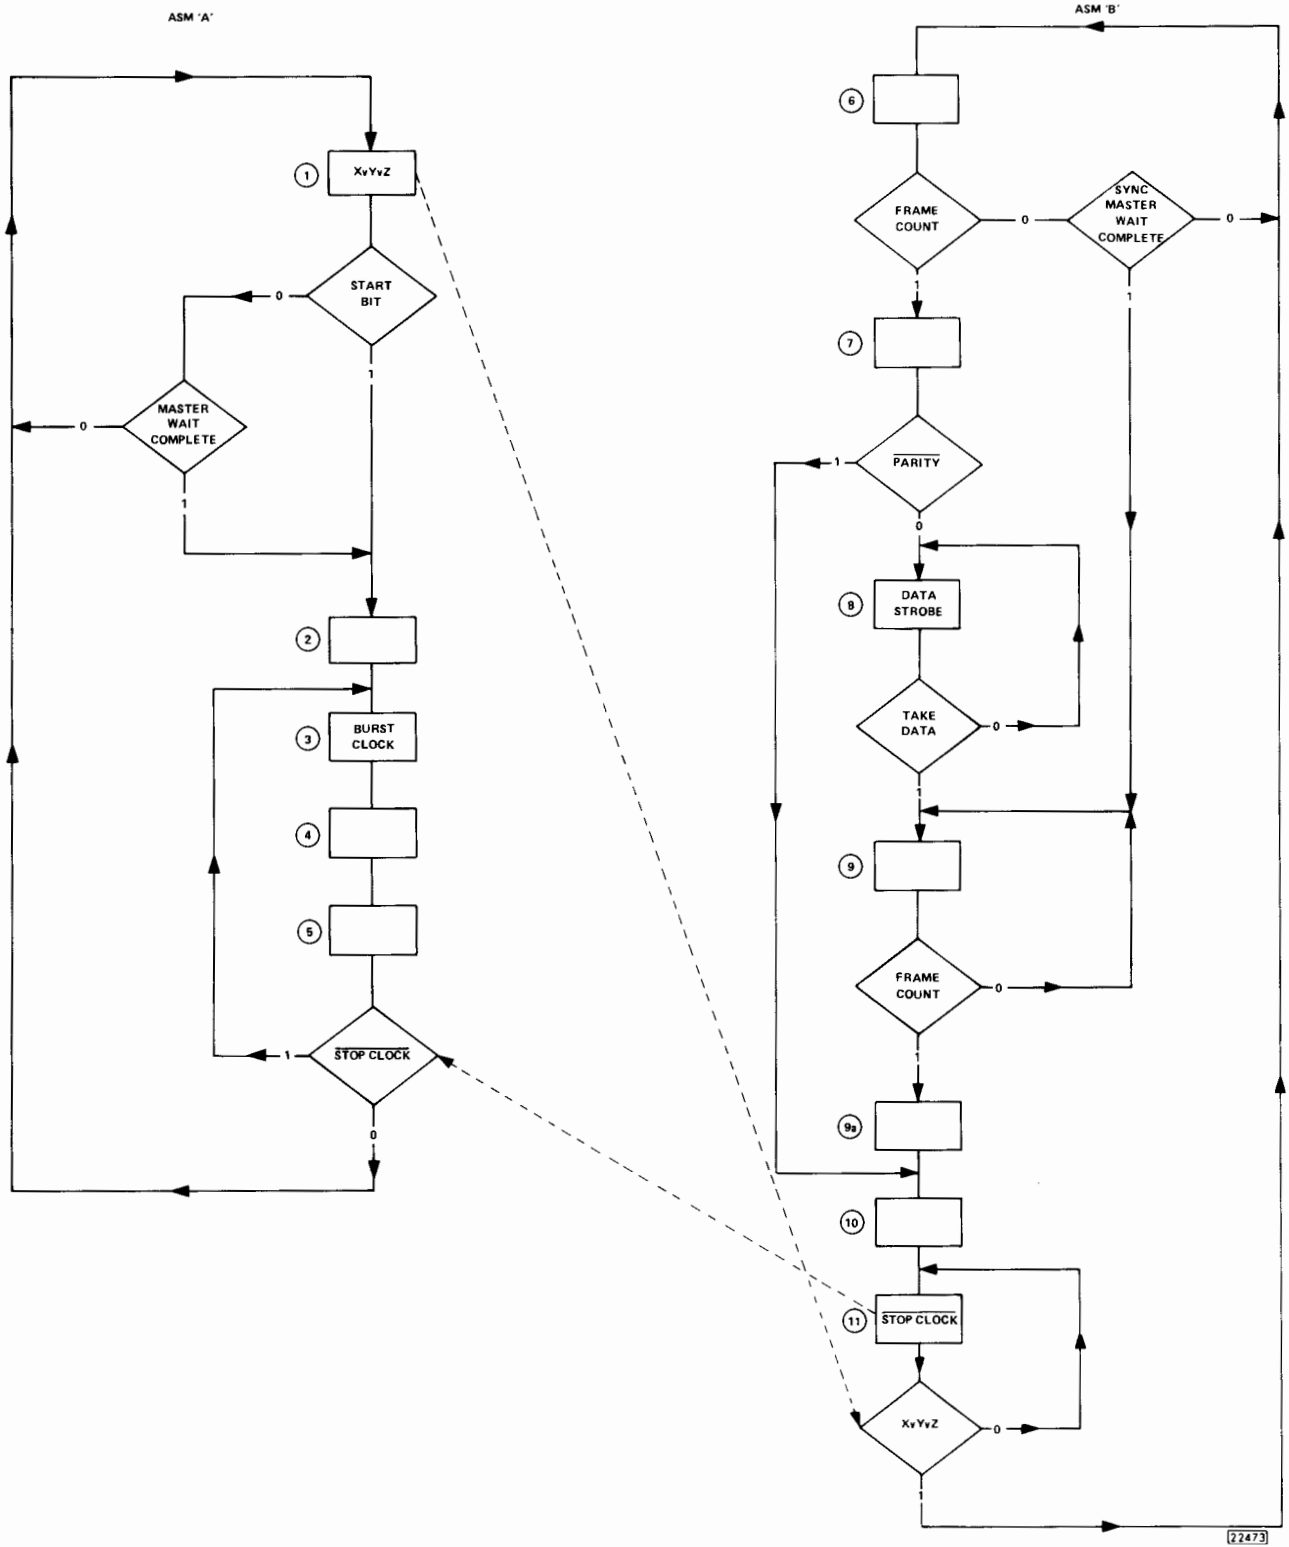

Figure 8-8 State Diagram of ASM 'A' and ASM 'B'
8-67 The Algorithmic State Machine A is a 5 state ASM (see Figure 8-8 for the state diagram). At power-on the machine will be in state 1 waiting for the start bit on *Receive Data* to set U31(5) high. The machine then passes through state 2 (a transitional state for timing purposes only) to states 3, 4 and 5. (The machine continually loops states 3, 4 and 5 to divide the *Main Clock* by 3 to produce the *Burst Clock* in phase with the receive frame). State 3 gives the true state of the *Burst Clock* at U30(7). The *Burst Clock* will run until ASM 'B' reaches state 11 putting *Stop Clock* low. ASM 'A' will then idle in state 1 waiting for the start bit from the next receive frame.
8-69 The Algorithmic State Machine B is a 7 state ASM (see Figure 8-8 for the state diagram). At power-on the machine will be in state 6 waiting for the *Burst Clock* from ASM 'A' to start the machine. During state 6 the receive data frame is shifted serially into the registers until the *Frame Count* signal indicates that the last bit is ready to be loaded. The machine then goes into state 7. If the parity check code is correct *Parity* will be false so, the machine moves into state 8 when the data is transferred from the 16-bit Data Register to the Parallel Register. *Data Strobe* is now set high and the registers are put in the load mode with the data being passed to the HP-IB section. After the receive frame has been sourced onto the HP-IB the return frame has to be sent. The HP-IB section sets *Take Data* high to move the machine into state 9. During this state the return data frame is shifted serially into the registers until the *Frame Count* signal indicates that the last bit has been transferred to the Serial Section. The machine will now move into state 9a. During states 9 and 9a *Release Output* is set high to allow the return frame to be transmitted over the serial link. State 9a allows the last bit of the return frame to be encoded and transmitted over the serial link. The machine then moves into state 10 where the registers are loaded with the correct initial conditions for the next receive data frame. Once the registers are loaded the machine moves into state 11 where the *Stop Clock* is set low to stop the *Burst Clock* from ASM 'A'. ASM 'B' then idles in state 6 waiting for the *Burst Clock* from ASM 'A'.